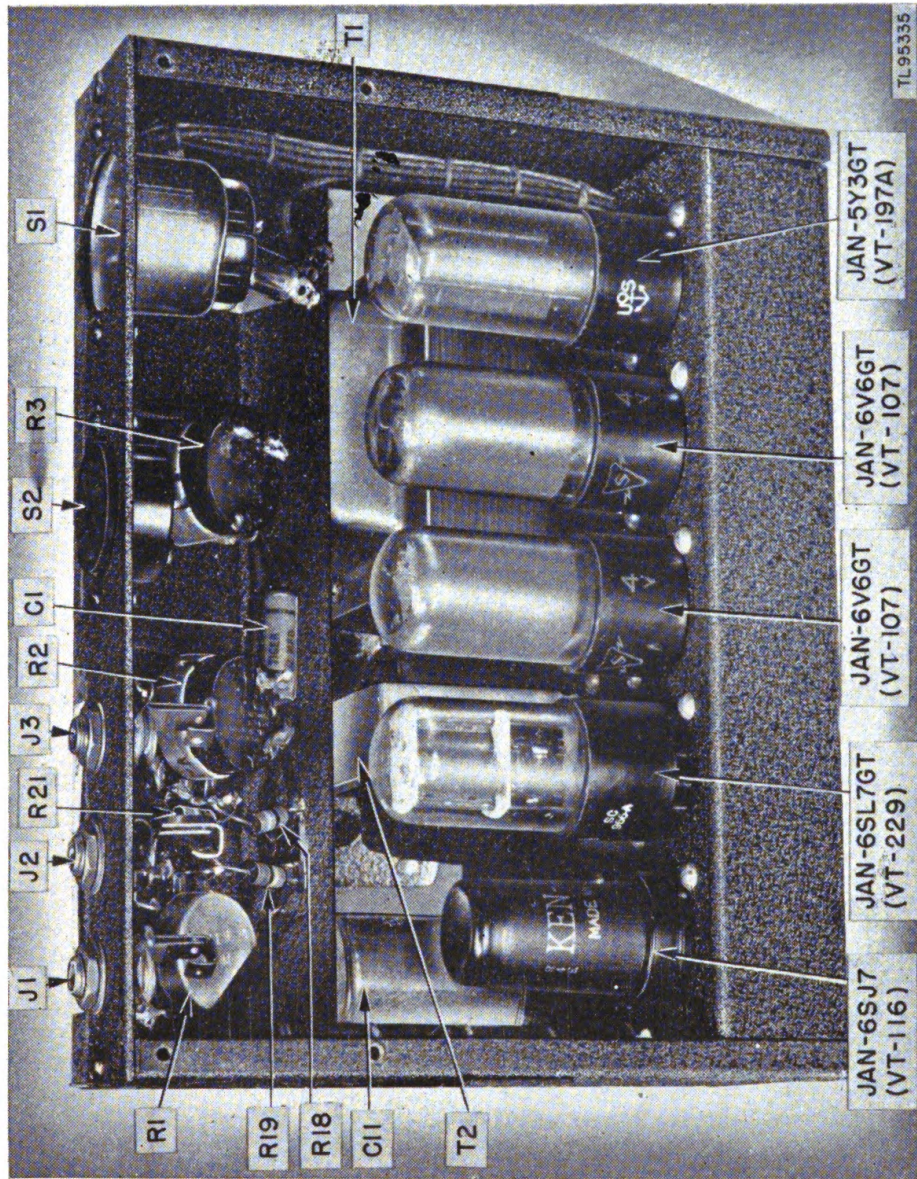

Figure 16. Reproducer amplifier chassis, rear view, grill removed.
- (4) Illustrations of components (figs. 16 and 17). (Front, top, and bottom views will aid in locating and identifying parts.)